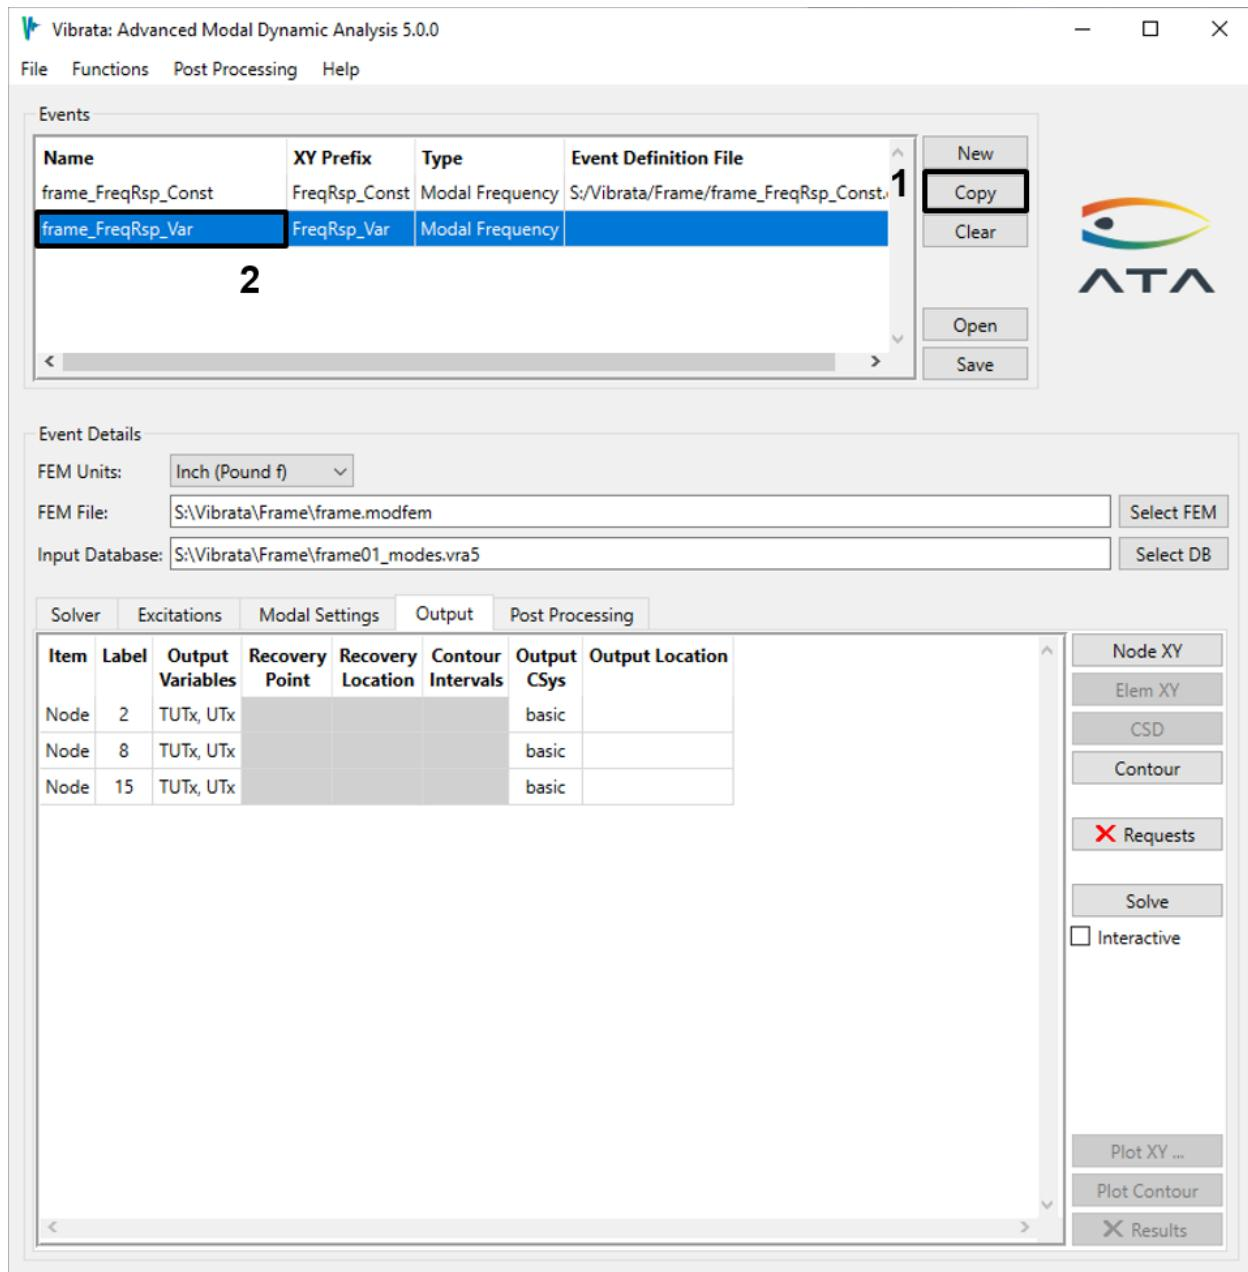

Figure 4-34. Use the **Copy** button to create a new event from an existing one.
- Rename the new event to "frame_FreqRsp_Var" and set the XY Prefix accordingly. Note that its output requests are again in black text; these have not yet been solved (Figure 4-34).